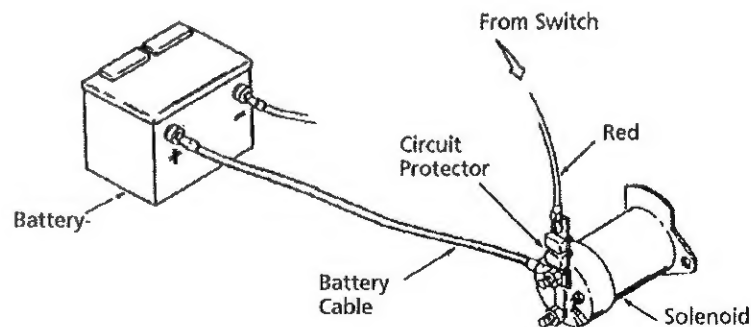

Figure 11
Step 5 - Attach the circuit breaker assembly to the battery positive terminal last to avoid any shorts or sparks. Be sure connections are clean and tight. If connection to the battery positive terminal is not possible because of the terminal design, connect the circuit breaker to the solenoid "hot" side. Determine the "hot" side by tracing the battery cable to the solenoid connection. Connect the circuit breaker to the same terminal the battery cable is connected to (Figure 11).